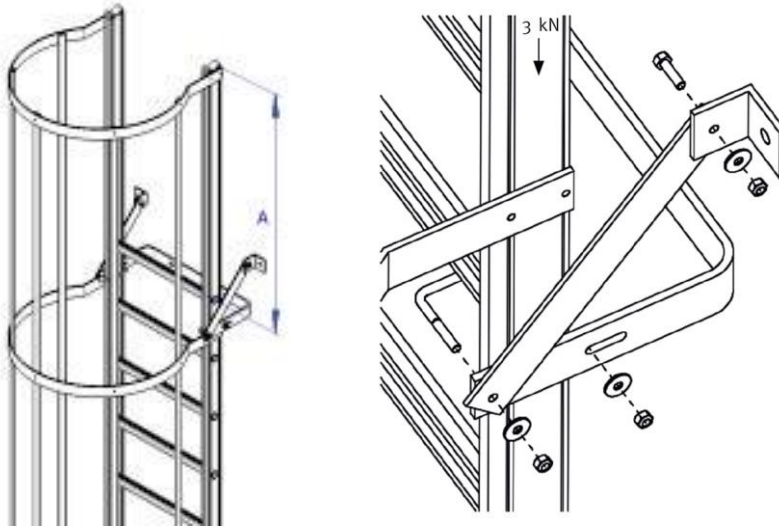
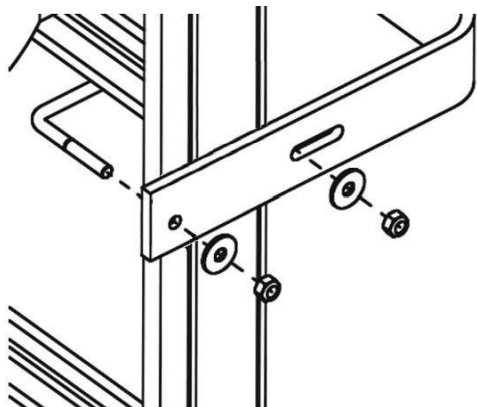

Figure 1
Figure 2
- Choose the right fixing materials. When calculating the strength of the anchorage, consider a force of 3 kN in each style, lying in the direction of the centreline (see Figure 1). The anchorage and its connections should be capable of supporting a load of 3000N per post. A maximum of 4 anchorages may be considered.
- Fit the wall support set(s) and any suspension support set(s) to the ladder sections (see figures 1 and 2). Make sure that the wall support is mounted directly under the rung as much as possible. The maximum distance between two wall supports is 2 metres.
Any "floating" ladder that does not rest on a foundation must be mounted with at least 1 suspension support set as shown in Figure 1. A suspension support set consists of a wall support set as shown in figure 2, with 2 angled brace strips and 2 angled lines for fixing to the wall behind. Mount the suspension support set at the bottom of the exit section (A).